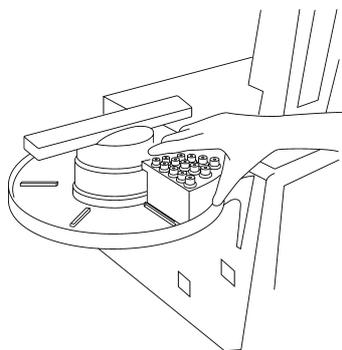

Figure 2-52
- 1** The autosampler sample tray is divided into sections for positioning the vial racks. Seat the vial racks between the sections, in numerical order, as shown in Figure 2-52.